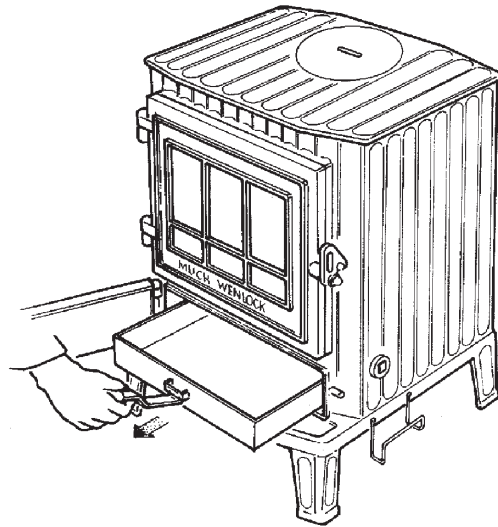

Fig. 4
- Remove the ashpan with the operating tool, Fig. 4. Allow to cool before placing contents in a plastic bin or liner.